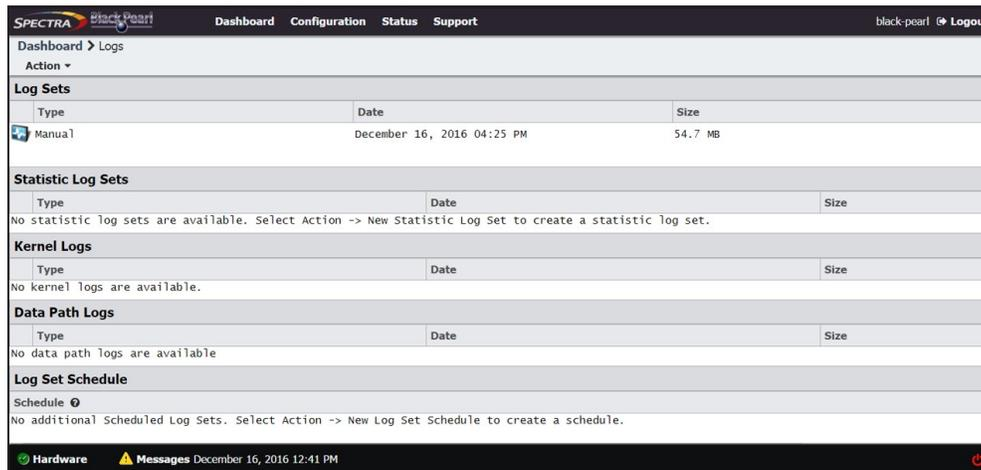

Figure 332 The Logs screen.
1. From the menu bar, select **Support > Logs**. The Logs screen displays (see Figure 332).
1. From the menu bar, select **Support > Logs**. The Logs screen displays (see Figure 332 on page 408).